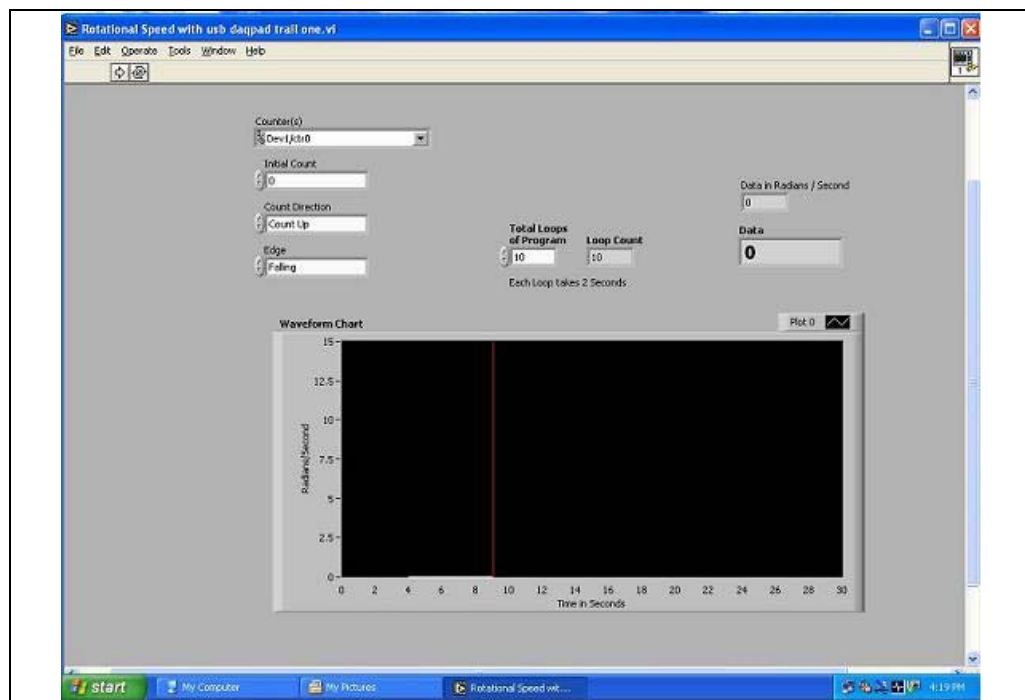

Figure 1S
1. Open the Labview program – your TA will tell you where to find it. When you initially open the program, you will see a red line moving across a black chart that Labview is acquiring data (your screen should look like Figure 1S below). When you are asked to save a file, click **cancel** and then click **stop** in response to the error message.